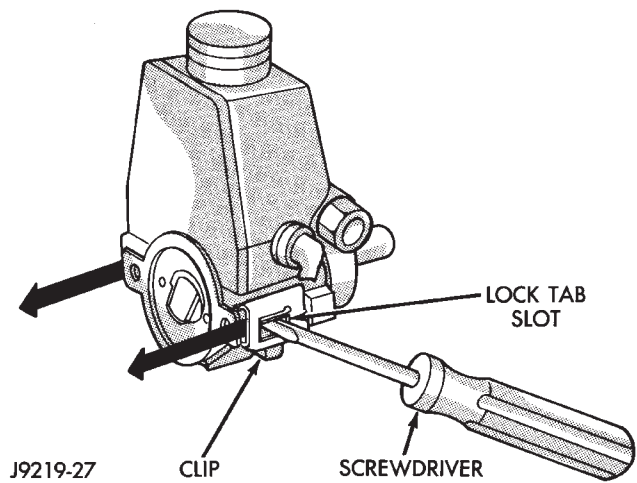

Fig. 8 Remove Reservoir Clips—Typical
(1) Remove power steering pump. Refer to Pump Replacement in this section.
(2) Clean exterior of pump with solvent.
(3) Clamp the pump body in a soft jaw vice.
(4) Pry up tab and slide the retaining clip off (Fig. 8).